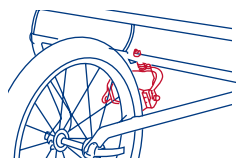
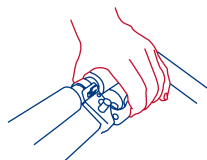

Fig. 15
Fig. 16
Your stroller may come equipped with a caliper brake system. (Fig. 15) The front wheel bicycle style caliper brake system that is designed to assist you in slowing the stroller on a hill or in the event of an emergency. Squeeze the brake handle to slow the stroller. (Fig. 16) The hand brake is not to be used as a parking brake.
- **CALIPER BRAKE SYSTEM:** Squeeze the brake handle to slow the stroller. (Fig. 16) **NEVER** use the hand brake as a parking brake. This feature is only available on Type 1 stroller.